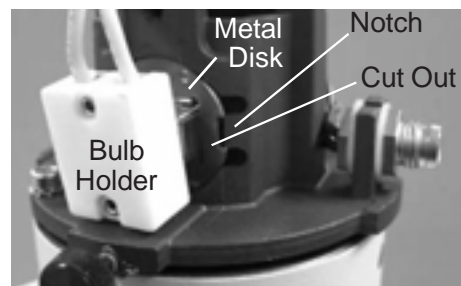

Figure 33 Notch
Note: There is a Cut Out in the Metal Disk on the Bulb. Ensure that the Bulb is placed properly so that the Cut Out fits into the Notch. Refer to Figure 33
7. Secure the Bulb with the Metal Tab and Screw. Refer to Figure 33.